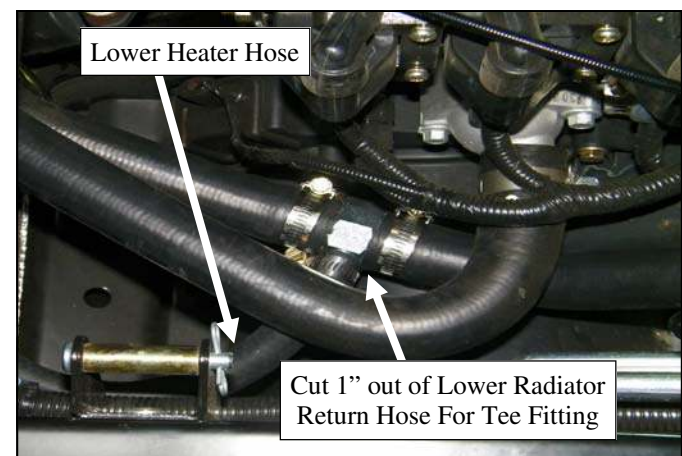

FIGURE 5.20
5.20 (GAS ENGINE ONLY (All years)) Disconnect the lower radiator return hose (lower hose in Figure 5.20) and drain coolant into a drain pan for re-use then reconnect hose and clamp.
5.21 (GAS ENGINE ONLY (All years)) Per Figure 5.20, cut a 1" section out of the lower radiator return hose where shown and install the supplied 1" x 1" x 5/8" tee fitting. Secure with two large hose clamps. Cut the lower heater hose to length and install onto the tee using a small hose clamp. Make sure to rotate the tee to keep the hose from kinking and also to be sure it avoids the hot exhaust pipe.